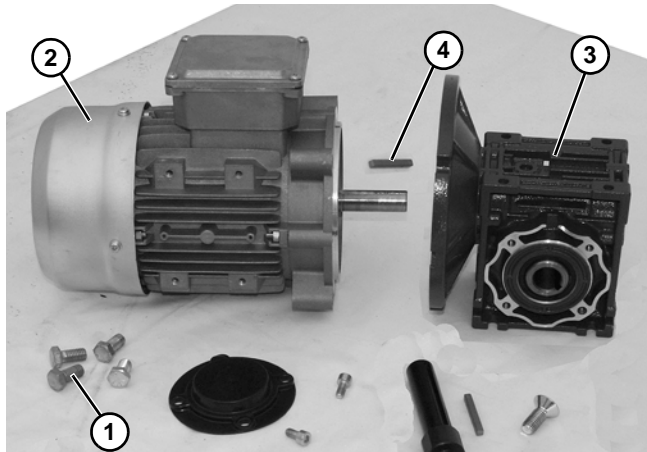

Figure 20
5. Remove four screws (**Figure 20, item 1**). Detach motor (**Figure 20, item 2**) from gear reducer (**Figure 20, item 3**). Retain shaft key (**Figure 20, item 4**).
9. Apply anti-seize to motor shaft before assembling to gearbox. With key (Figure 20, item 4) in keyway, slide motor (Figure 20, item 2) and gear reducer (Figure 20, item 3) together. Install screws (Figure 20, item 1) and tighten.